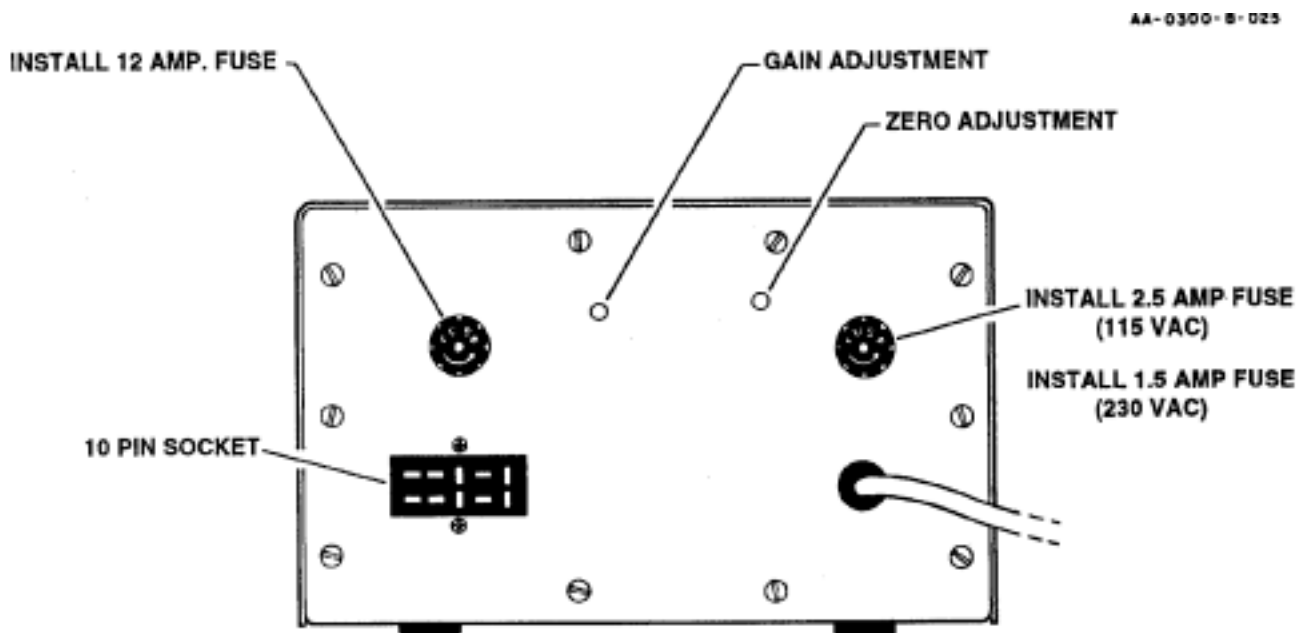
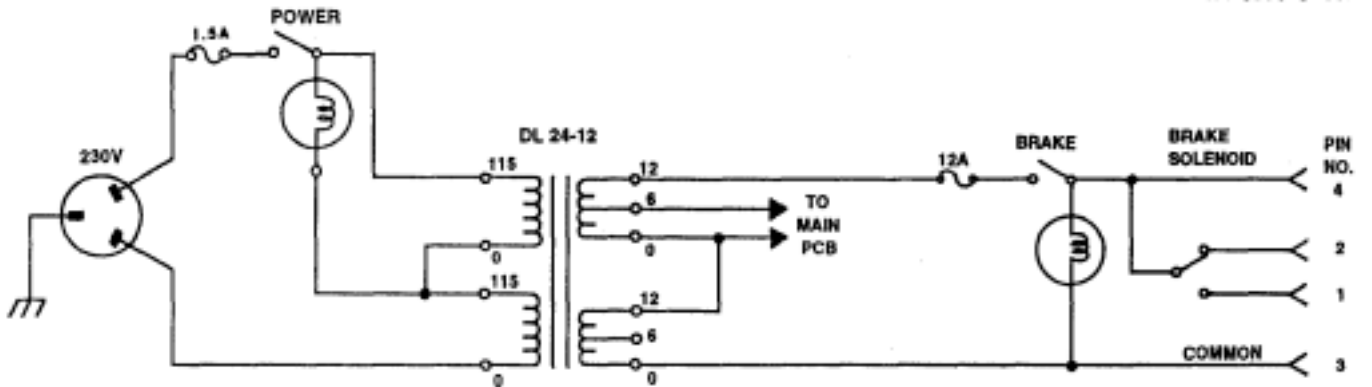

Figure 1
Figure 7 Wiring for
STEP 2: Referring to Figure 1, Control Console Rear Panel, install a 2.5A fuse (1.5A for 230 VAC) and a 12A fuse in the appropriate fuse holders.
Refer to Figure 1 and install the fuse indicated for the voltage that will be used.
Set the rotator on the bench with the output shaft parallel to the bench top. Assemble the mast clamps and platform as shown in Figure 7. Insert the key into the keyway in the platform, and slide the mast clamp assembly onto the output shaft. This may unbalance the rotator, so you may wish to tip it back on the plastic housing. Turn on the control console and turn the rotator so the display reads "00". Line up the mast clamp assembly on a distant object, so that after turning the rotator through 360°, the mast clamp assembly is again lined up on the same object. Turn the rotator clockwise until this alignment is obtained. Using a small screwdriver, adjust the gain potentiometer so that the display reads "360", See Figure 1.
Remove the mast clamp assembly from the output shaft. At this time, coat the platform hole with heavy grease to prevent corrosion. If your rotator mounting plate is not permanently attached to the tower, it should be removed at this time. Assemble the rotator to the rotator mounting plate. (For Hy-Gain towers see Figures 7 and 8.) The rotator requires four (4) mounting holes, each 3/8 inch in diameter, four (4) inches apart on a 5.656 inch (5 21/32") diameter circle. Refer to the template for mounting hole locations on the mounting plate which is furnished in this manual. For small towers, the mounting holes must be arranged on the mounting plate so that the output shaft is centered within the tower and that the gear housing doesn't interfere with a tower leg or bracing.